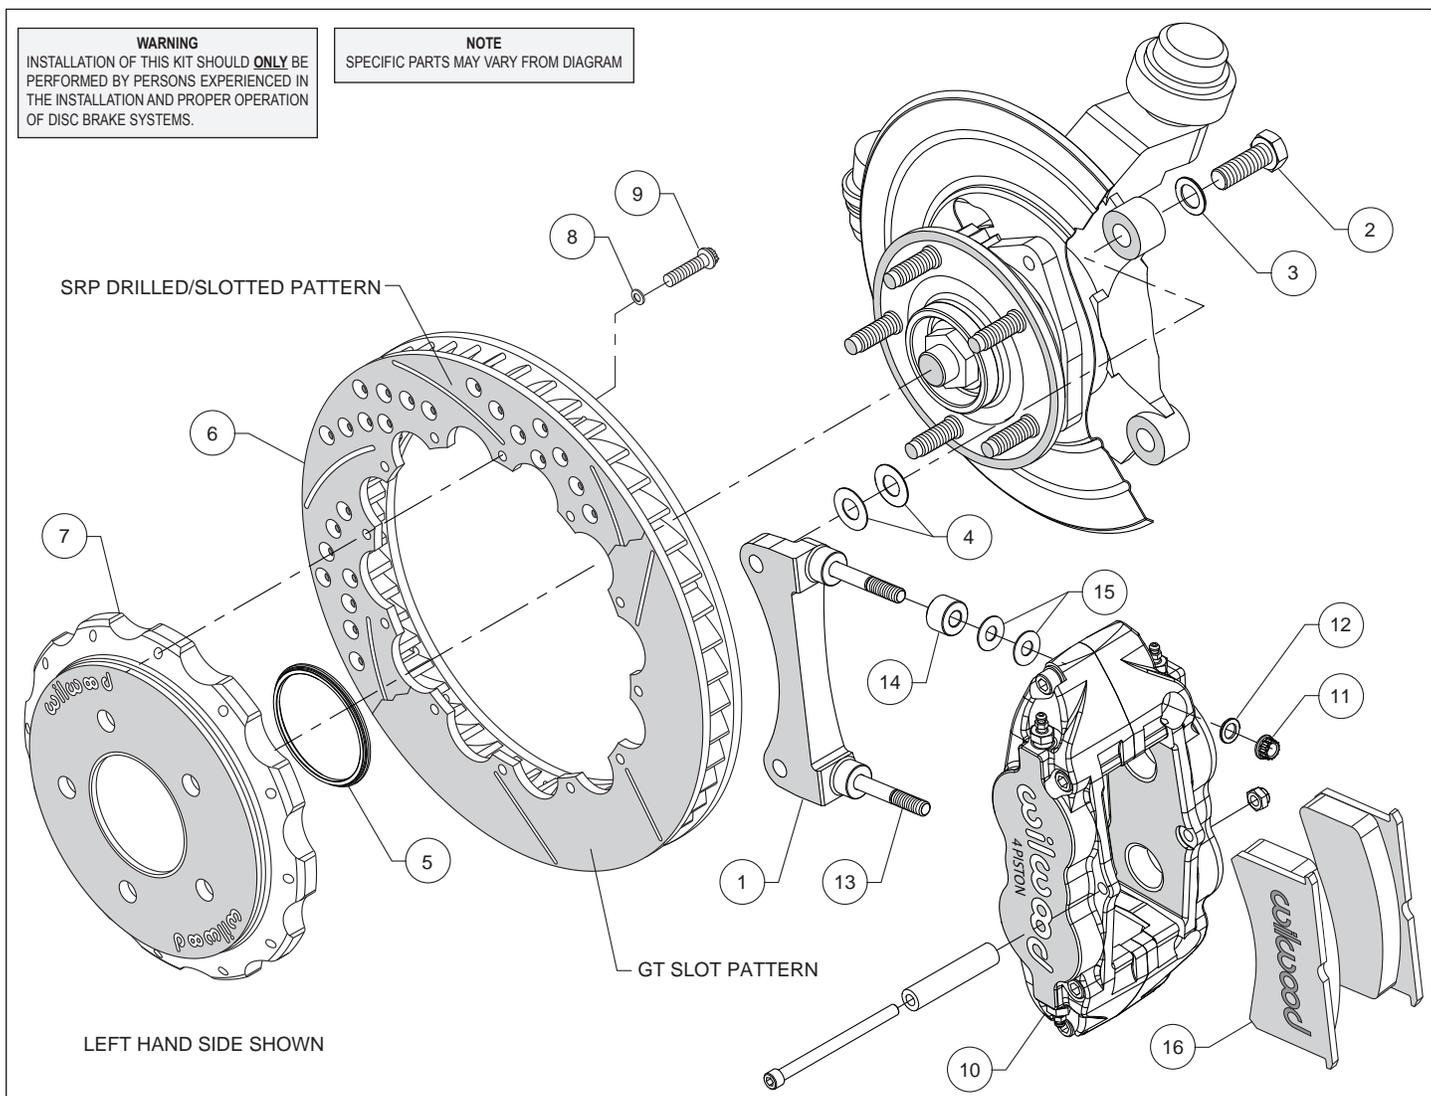
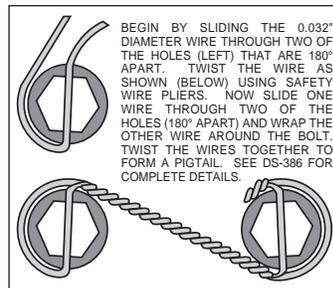

Figure 1. Typical Installation Configuration
Figure 3. Safety Wire Diagram
Assembly Instructions (numbers in parenthesis refer to the parts list and Figure 1 on the preceding pages):
- The caliper mount bracket (1) should initially be installed with clean, dry threads on the mounting bolts. Orient the bracket as shown in Figure 1 and Photo 1 and install using mount bolts (2) and washers (3). Initially place two .029" thick shims (4) on each bolt between the bracket and upright, Figure 1. Temporarily tighten the mounting bolts. **NOTE: The bracket must fit squarely against the mount bosses on the upright.** Inspect for interference from casting irregularities, machining ridges, burrs, etc. Later, after the caliper alignment has been checked, the mount bolts will be secured using red *Loctite*® 271.
- Orient the rotor (6) and the hat (7) as shown in Figure 1 and Photo 2. Attach rotor to hat using bolts (9) and washers (8). Using an alternating sequence, apply red *Loctite*® 271 to the threads, and torque to 155 **in-lbs**. Safety wire bolts using standard 0.032 inch diameter stainless steel safety wire as shown in Figure 3. Please refer to Wilwood's data sheet DS-386 (available at www.wilwood.com/Pdf/DataSheets/ds386.pdf) for complete safety wire installation instructions.
- Lubricate the caliper mounting studs (13) with lightweight oil. Initially place two .035" thick shims (15) and one spacer (14) on each stud as shown in Figure 1 and Photo 7. With the bleed screws pointing up, mount the caliper (10) onto the bracket (1) using lock nuts (11) and washers (12), Figure 1. Temporarily tighten the lock nuts and view the rotor through the top opening of the caliper. The rotor should be centered in the caliper, Photo 8. If not, adjust by adding or subtracting shims (4) between the bracket and the upright. Always use the same amount of shims on each of the two mounting bolts. Once the caliper alignment is correct, remove the bracket mounting bolts one at a time, apply red *Loctite*® 271 to the threads, and torque to 75 ft-lb.